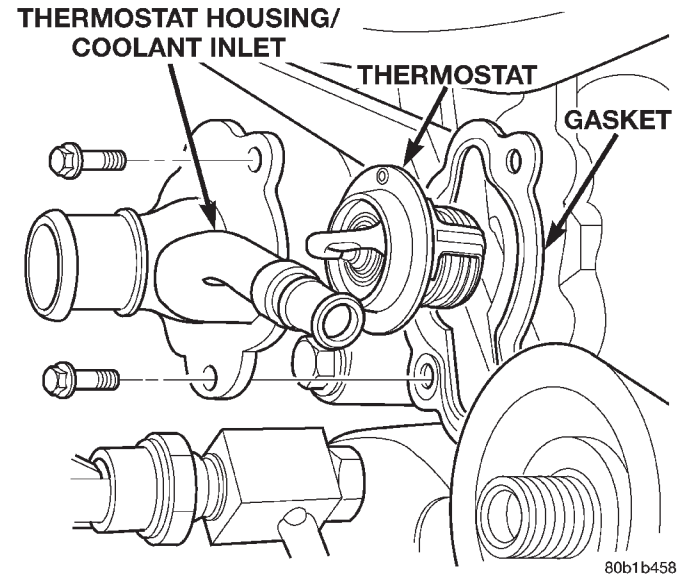

Fig. 17 Thermostat and Housing—3.5L Engine
(1) Disconnect negative cable from remote jumper terminal.
(2) Drain cooling system.
(3) Raise vehicle on hoist.
(4) Disconnect electrical connectors from engine oil and power steering pressure switches.
(5) Disconnect radiator and heater hoses from thermostat housing.
(6) Remove thermostat housing bolts (Fig. 17).
(7) Remove housing, thermostat, and gasket.